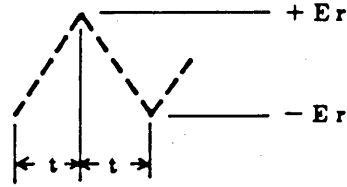

Figure 4-4
Denoting by "I" the constant current with which the integrating capacitor C is charged and discharged, by $\pm E_r$ the reference voltage of the voltage comparator, and by "t" the period from +Er to -Er as shown in Figure 4-4, equation (1) can be written.